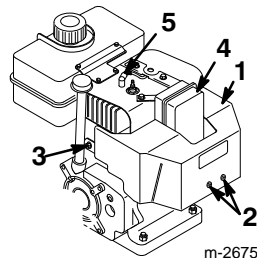

Figure 19
If you operate the engine when the air temperature is above 40°F (4°C), remove the carburetor heater box (Fig. 19).
1. Pull the wire off of the spark plug and ensure that the wire does not contact the plug (Fig. 19).
2. Remove the two Phillips screws, two hex head screws and lock washer that secure the heater box in place (Fig. 19).
5. Place the spark plug wire on the spark plug (Fig. 19).